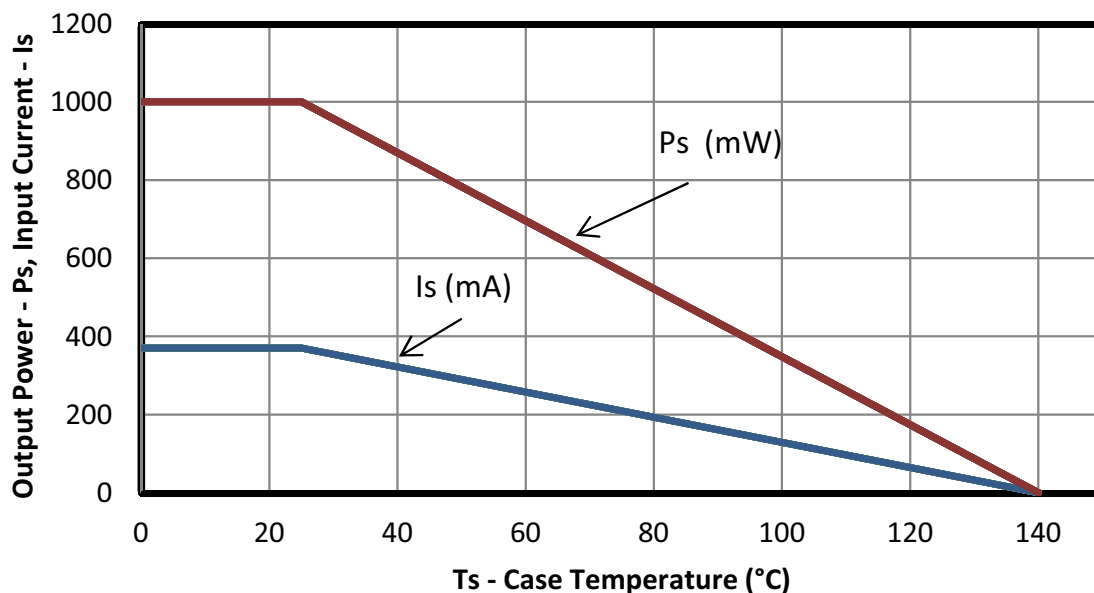

Figure 4. (SOIC-8) Thermal Derating Curve, Dependence of Safety Limiting Values with Case Temperature per DIN EN 60747-5-2
*Note: Maximum value allowed in the event of a failure; also see the thermal derating curve in Figures 4, 5, 6, and 7.